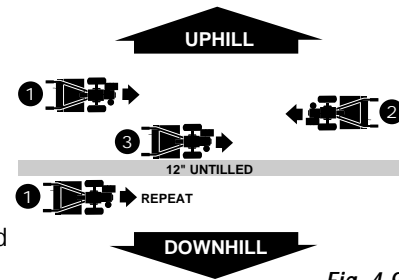

Fig. 4-9
- To create a terrace, start at the top of the slope and work down. Go back and forth across the first row as shown in Fig. 4-9.